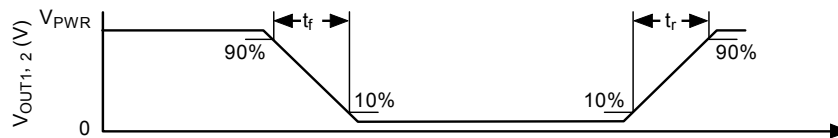

Figure 4. Output Switching Time
29. Rise Time is from the 10% to the 90% level and Fall Time is from the 90% to the 10% level of the output signal. See Figure 4, page 11.